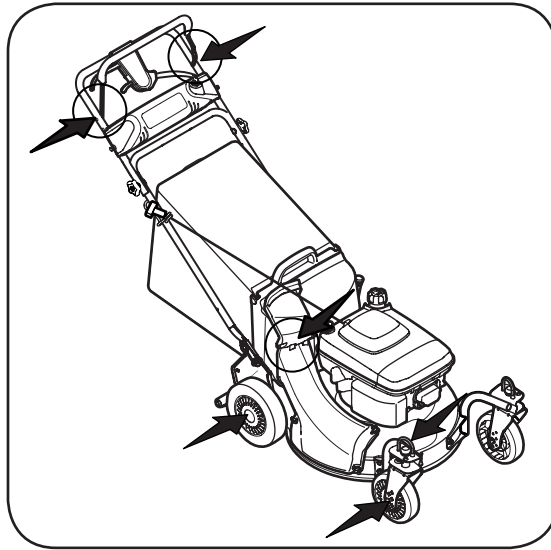

Figure 5-1
1. Lubricate pivot points on the blade control at least once a season with light oil. The blade control must operate freely in both directions. See Figure 5-1.
2. Lubricate wheels and casters at least once a season with light oil (or motor oil). If wheels are removed for any reason, lubricate the axle bolt and inner surface of the wheel with light oil. See Figure 5-1.
3. Lubricate the torsion spring and pivot point on each end of the adapter door at least once a season with light oil to prevent rust. See Figure 5-1.